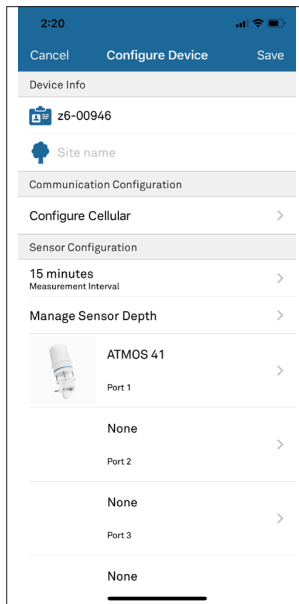

Figure 11 Configure Device screen
The Configure Device screen will appear (Figure 11).
5. Enter a device name (Figure 11).